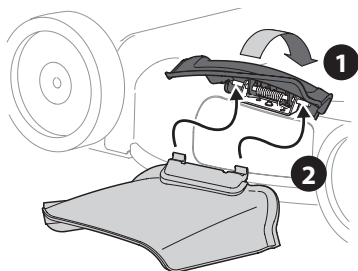

Figure 13
1. Lift the side mulch cover (Figure 13).